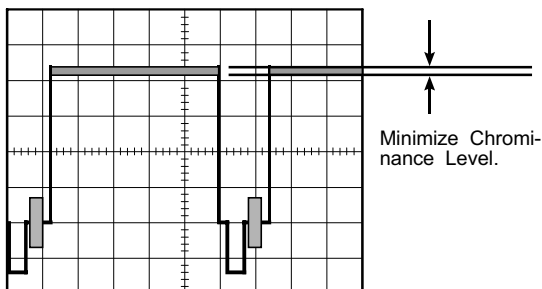

Fig. 4-29
- Adjust data with the **ARROW** keys so that the false chrominance level becomes minimum as shown in Fig. 4-29.